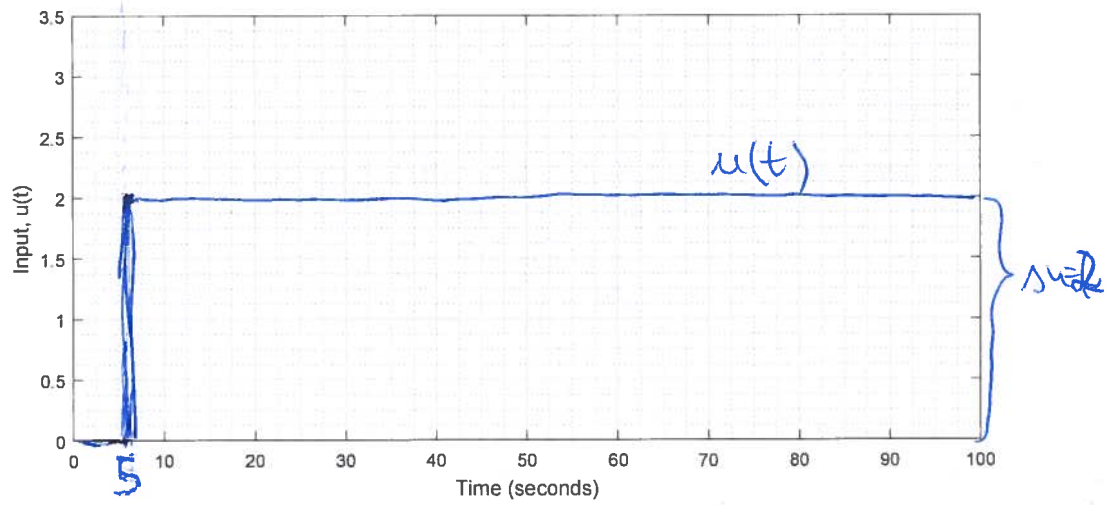

Figure 1: First order transfer function.
1. (7 points) The transfer function $g(s)$ is a first order transfer function with time delay and the output is $y(s) = g(s)u(s)$. The step response $y(t)$ is plotted in Figure 1, and:
- 2 (a) Sketch $u(t)$ in Figure 1.
- 2 (b) Indicate the time delay (θ), time constant (τ), and steady state value (y_∞) in Figure 1.